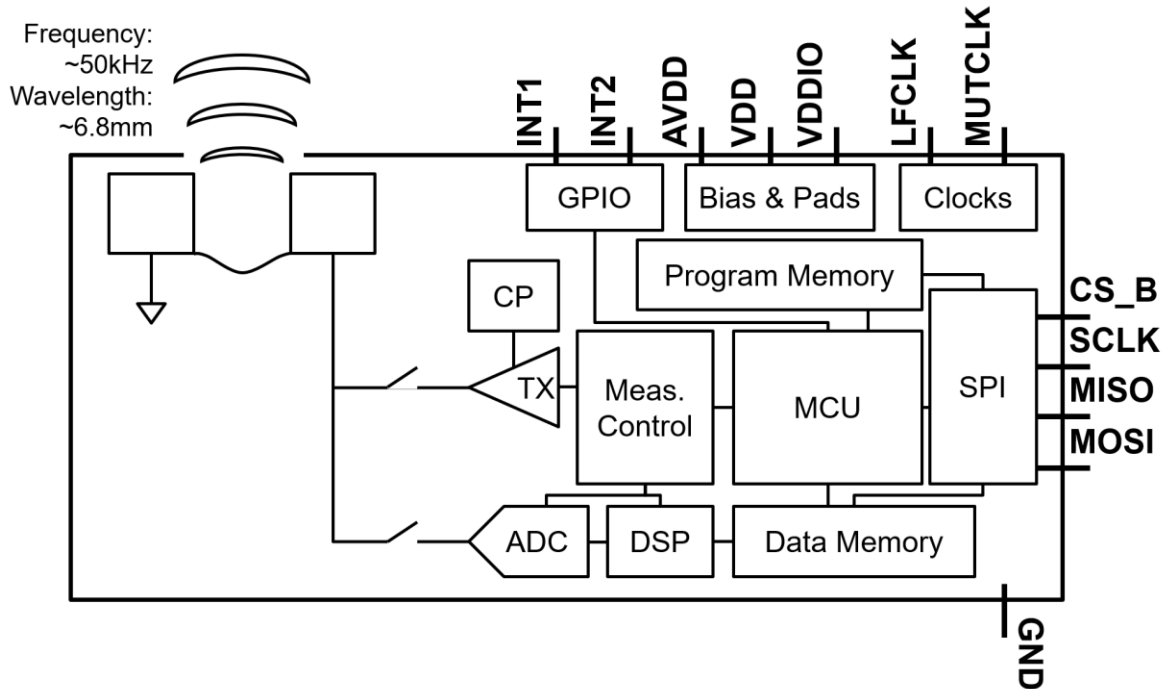

Figure 4. Simplified Block Diagram
The ICU-30201 is an autonomous, digital output ultrasonic transceiver. The Simplified Block Diagram in Figure 4 shows the main components at the package-level. The package includes a piezoelectric micro-machined ultrasonic transducer (PMUT) and system-on-chip (SoC). The SoC controls the PMUT to produce pulses of ultrasound at an operational frequency f_{op} that reflect off targets in the sensor's Field of View (FoV). The reflections are received by the same PMUT after a short time delay, amplified by sensitive electronics, digitized, and stored as I/Q baseband data in the on-chip data memory. Software defined algorithms can process the I/Q data to detect targets using the on-chip microcontroller (MCU), and these algorithms can be tuned to detect stationary or moving targets preferentially. I/Q data can also be transferred to a larger host or application processor (AP) for further processing.